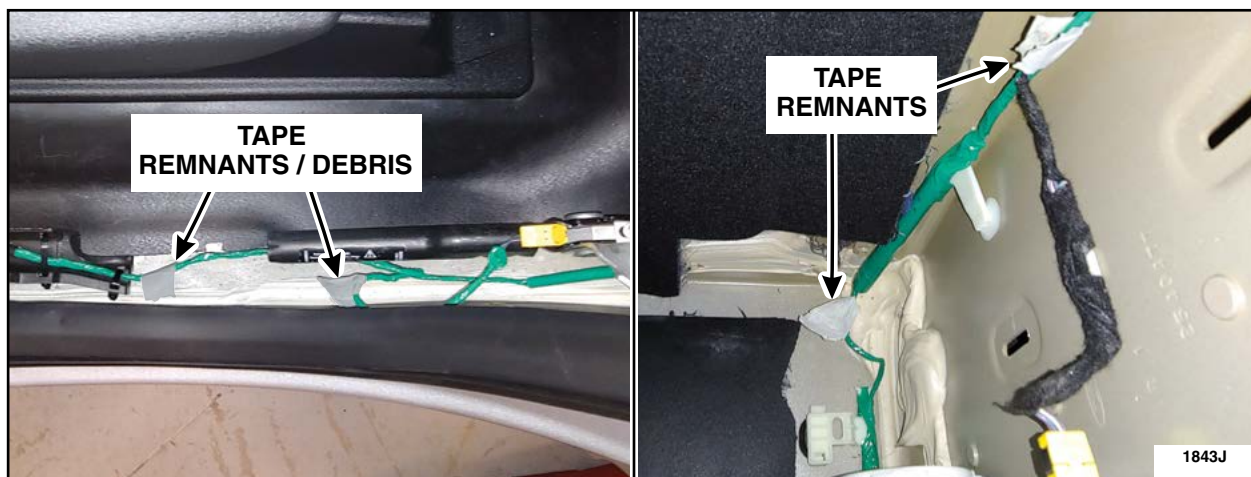

FIGURE 1
2. From the A-pillar backward to the rear of the vehicle cab along the metal floor, carpet and wire harness check for tape remnants or other debris. Remove any present. See Figure 1.